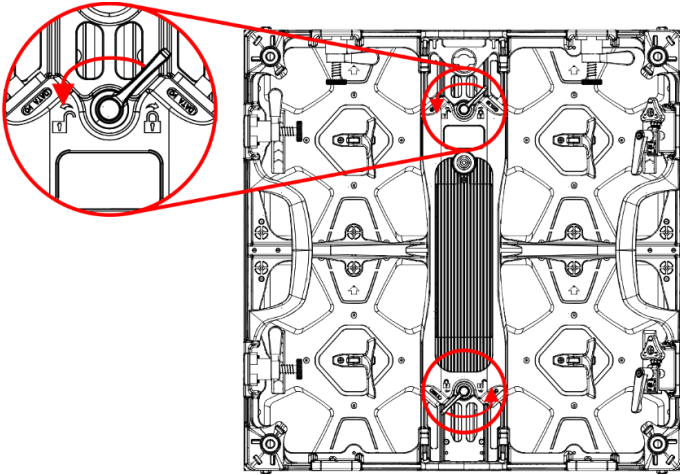
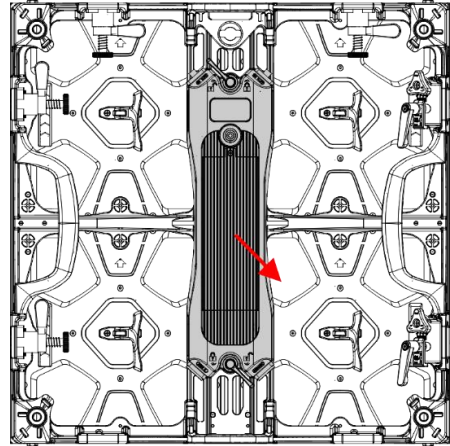

Fig. 69
Fig. 70
- 01) Turn the top **locking lever (13)** to the left, to loosen the control box from the LED screen, as shown in Fig. 69.
- 02) Turn the bottom **locking lever (13)** to the right to loosen the control box from the LED screen on the bottom of the LED screen.
- 03) Remove the control box, as shown in Fig. 70 and 71.